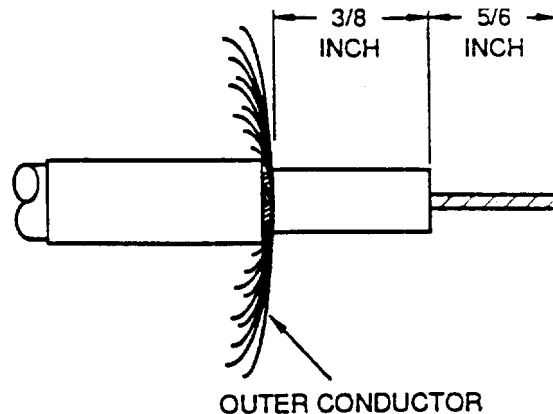

Figure 46. M39029/51 Shield Preparation
b. Slide crimp sleeve onto the cable out of the way (Figure 46).